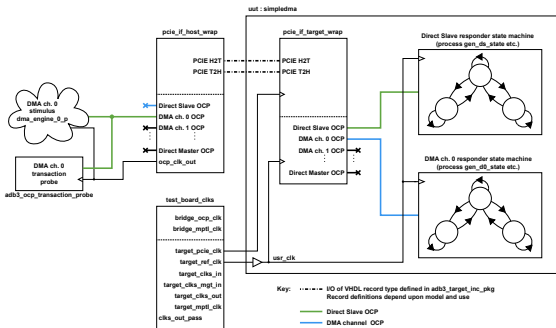

Figure 23 : SimpleDMA Design Testbench and Top Level Block Diagram (PCIe)
Figure 23 shows the testbench and embedded SimpleDMA FPGA design (PCIe).
- The testbench OCP clock ocp\\_clk\\_out path is shown in Figure 23 as the route consisting of points 1, 2, 3 and 4.